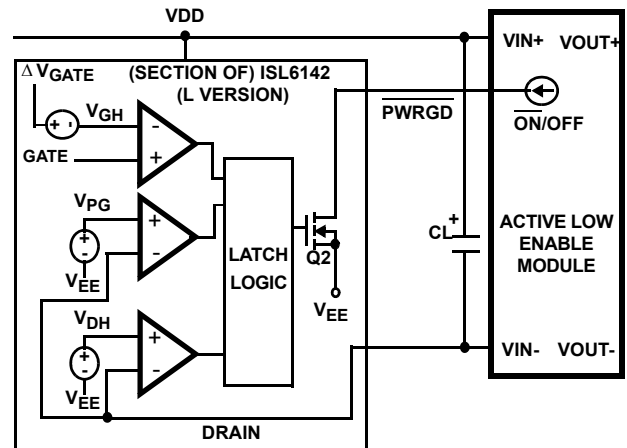

FIGURE 34. ACTIVE LOW ENABLE MODULE
**ISL6142** (L version; Figure 34): Under normal conditions (DRAIN voltage -  $V_{EE} < V_{PG}$  and  $\Delta V_{GATE} - V_{GATE} < V_{GH}$ ) the Q2 DMOS will turn on, pulling PWRGD low, enabling the module.
a high enough input voltage (remember that current through the RPG 6.2k $\Omega$  resistor generates the high voltage level; see Figure 34).